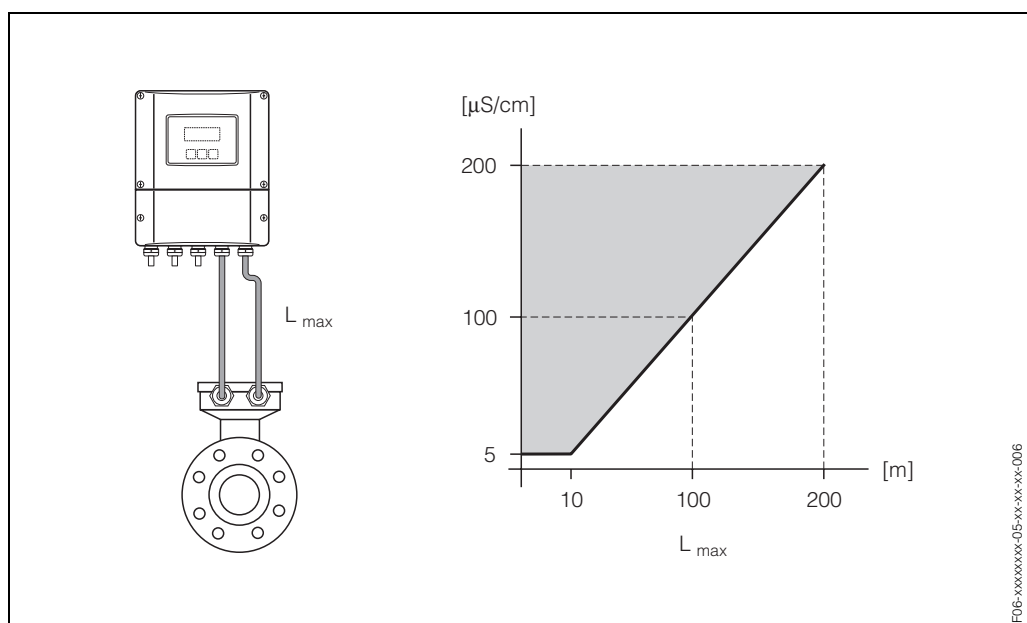

Fig. 15: Permissible cable length for the remote version
- The permissible cable length L_{max} depends on the fluid conductivity (Fig. 15). A minimum conductivity of $20 \mu\text{S/cm}$ is required for measuring demineralized water.